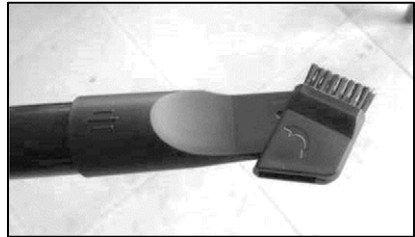

Fig 12
1. As shown in Fig.12, you can use the 2in1 compressed brush to clean the corner and the aperture. Open the other side with bristles of the brush to clean the sofa, the curtain and the dust on the ornaments.